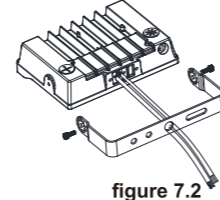

figure 7.2
Step 2: Tighten the brackets and screws.(figure 7.2)